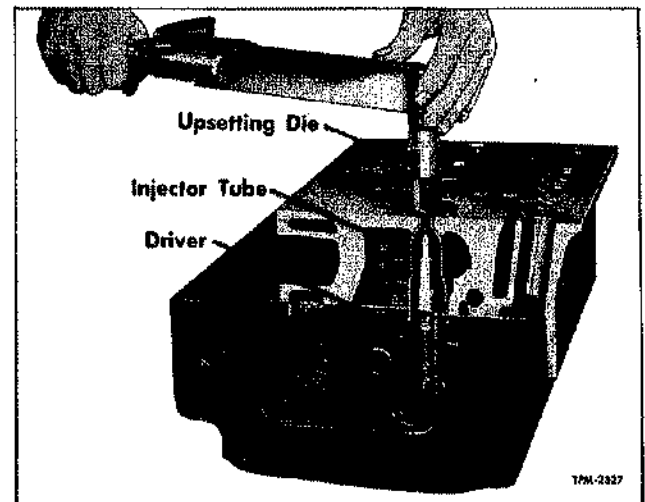

Figure 80—Installing Injector Copper Tube in Cylinder Head (Operation No. 2)
4. Remove pilot from injector tube and driver. Install flaring die through injector tube tip and thread into driver. Tighten flaring die, using torque wrench (fig. 80), until a torque reading of 30 ft. lbs. is obtained. Remove flaring die and driver from injector tube. Follow reaming instructions as described in following paragraphs.